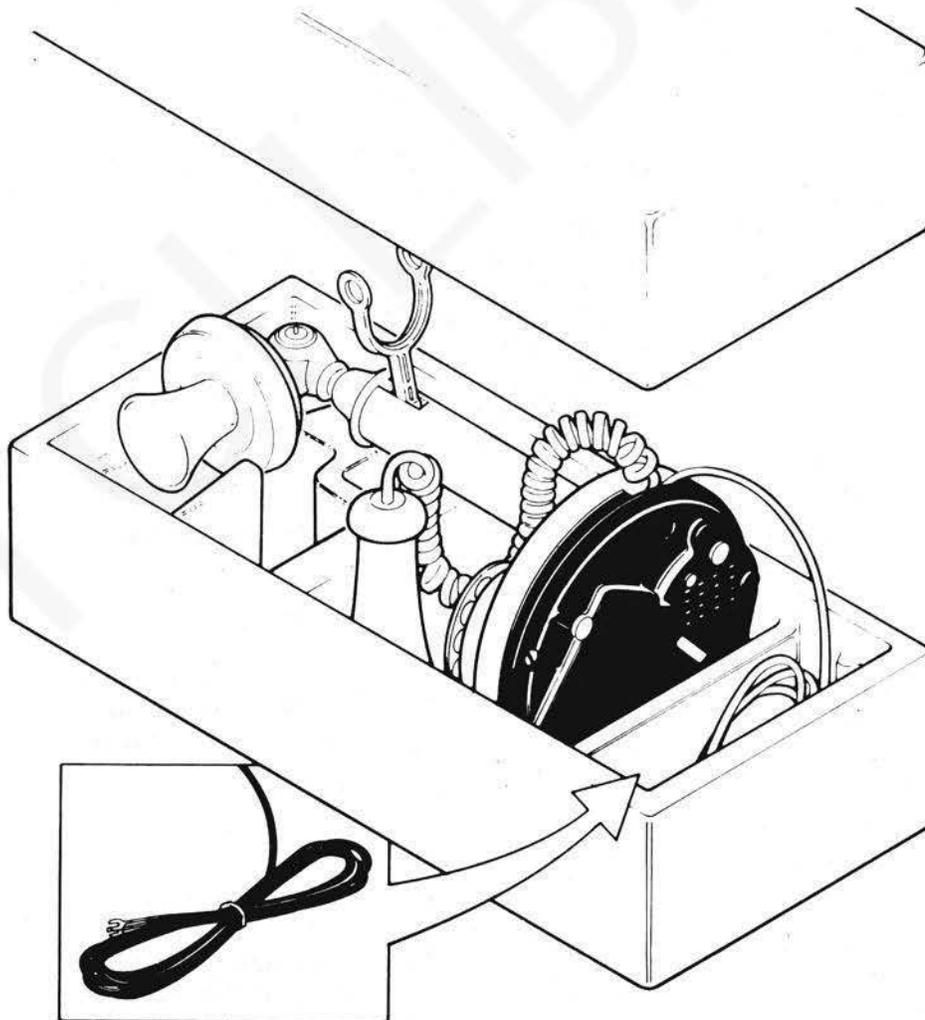

Fig. 9 – Candlestick Telephone Set Packing Instructions
- Gather the mounting cord as shown in Fig. 9, place the cord in a plastic bag, and secure with an elastic band.
- Position the receiver in the insert as shown in Fig. 9. Arrange the cord so that it rests between the receiver and the telephone set.